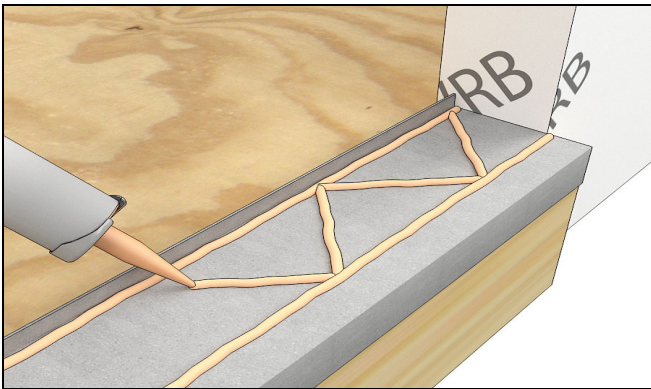

Figure 10
1. Apply three continuous beads of silicone to the top of the sill pan. See Figure 10.